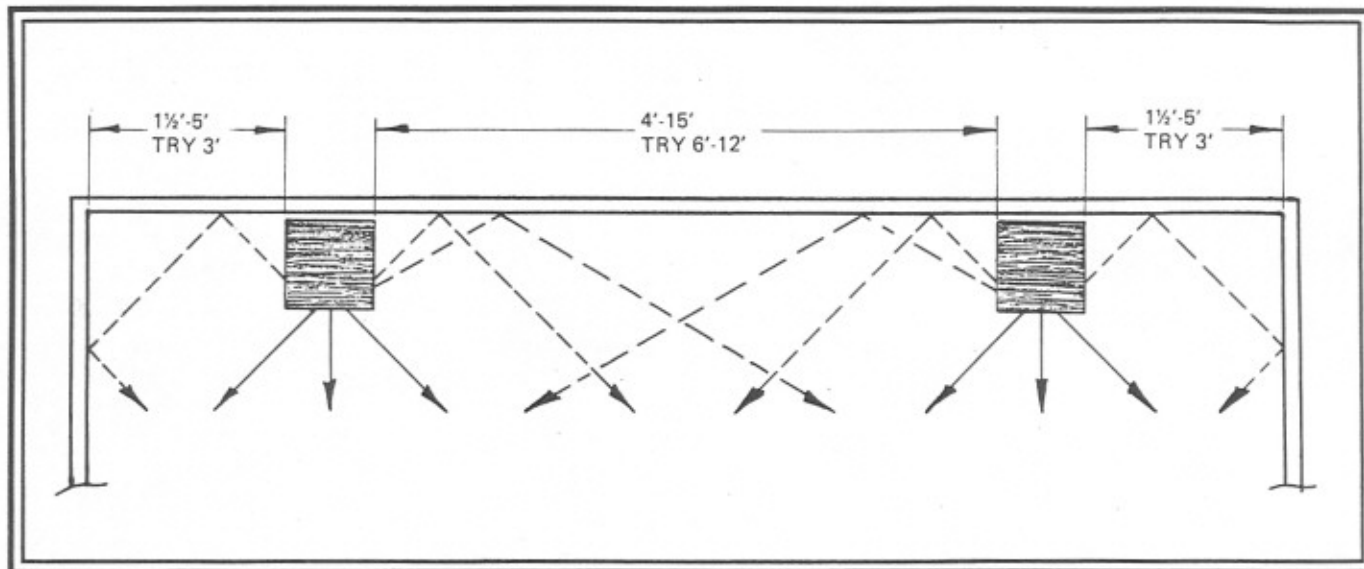

FIG. 2
4. Separation between the speakers should be between four and fifteen feet. Best results will be obtained with a separation of six to twelve feet. (See Fig. 2).